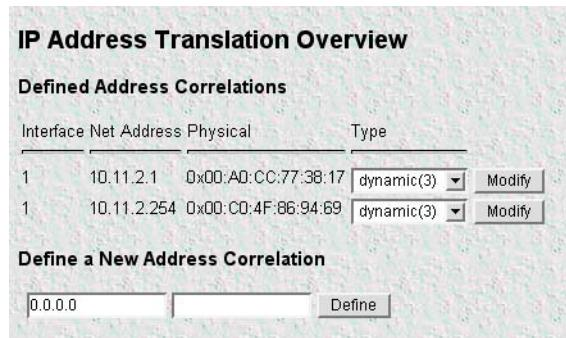

Figure 110. IP Address Translation Overview window
The *IP Address Translation Overview* window (see figure 110) displays the contents of the T-DAC's logical-to-physical address translation table. The T-DAC uses the table to resolve the correspondence between a logical IP network address and a physical media access control (MAC) address.
1. Type an IP address in the left text box located under the *Define a New Address Correlation* heading (see figure 110 on page 196).